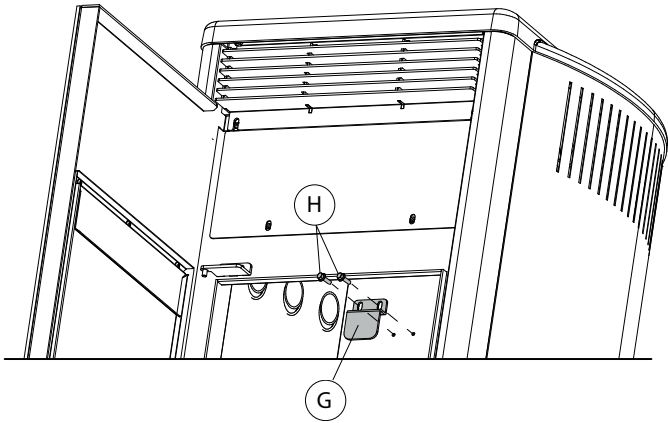

fig. 5.4.10
- Re-install the mounting bracket G by acting on the two screws H (Fig. 5.4.10) and reposition the brazier F (Fig. 5.4.11)